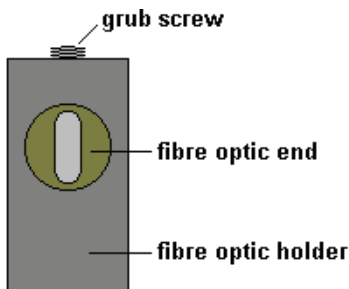

Figure 80 Left holder grub screw
10. Turn the fibre until it is vertical and tighten the grub screw, as shown in Figure 80.